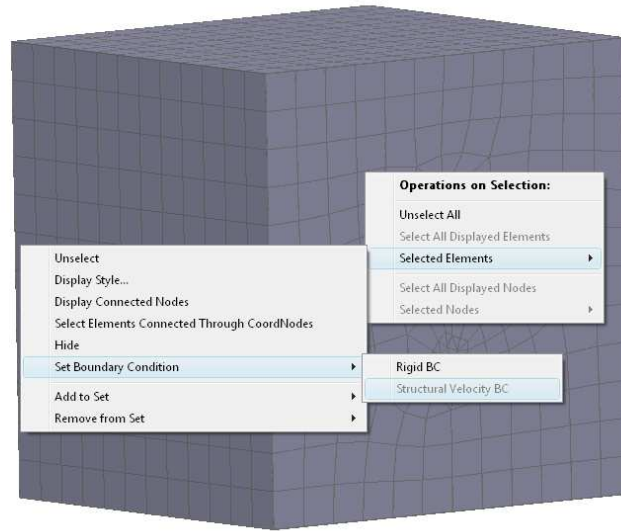

Figure 9.42: Apply boundary conditions through selected elements.
- Again right-click on the mesh while holding down the *shift-key* and select: **Selected Elements** → **Set Boundary Condition** → **Structure Velocity BC** (as shown in Figure 9.42). If the boundary condition **Structure Velocity BC** is inactive, it implies that it has already been applied over the selected elements.